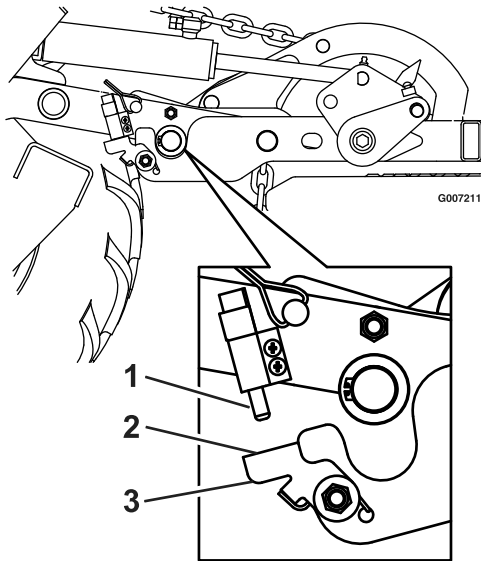

Figure 9
3. Check the PTO circuit. See the FR524, FR604, and FR724 Operator's manual to become familiar with the deck operation. Open the folding deck latches, **disengage** the park brake, move the motion control levers in to **neutral**, and **disengage** the PTO. **Lower** the deck until the PTO switch arm is no longer depressing the PTO "kill" switch (see Figure 9).